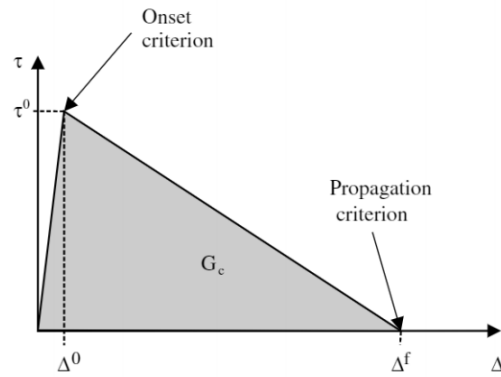

Fig. 3.17: **Bilinear Traction Separation Law** or the linear softening law [2].
- 'GcNormal'** Fracture toughness in opening mode G_{C_I} . See Fig. 3.17
- 'GcShear'** Fracture toughness in shear mode $G_{C_{sh}}$. See Fig. 3.17
See Fig. 3.17
- 'gFailureShear'** Final or failure displacement gap in shear mode Δ_{sh}^f . See Fig. 3.17